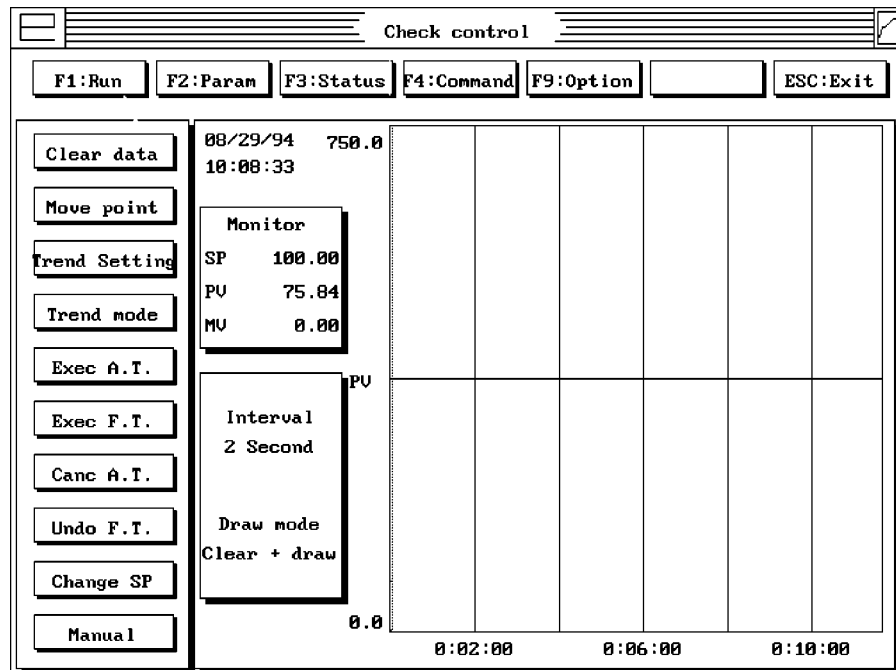

Figure 11
2. In the **Check control** menu click on **F4:Command** (Figure 11).